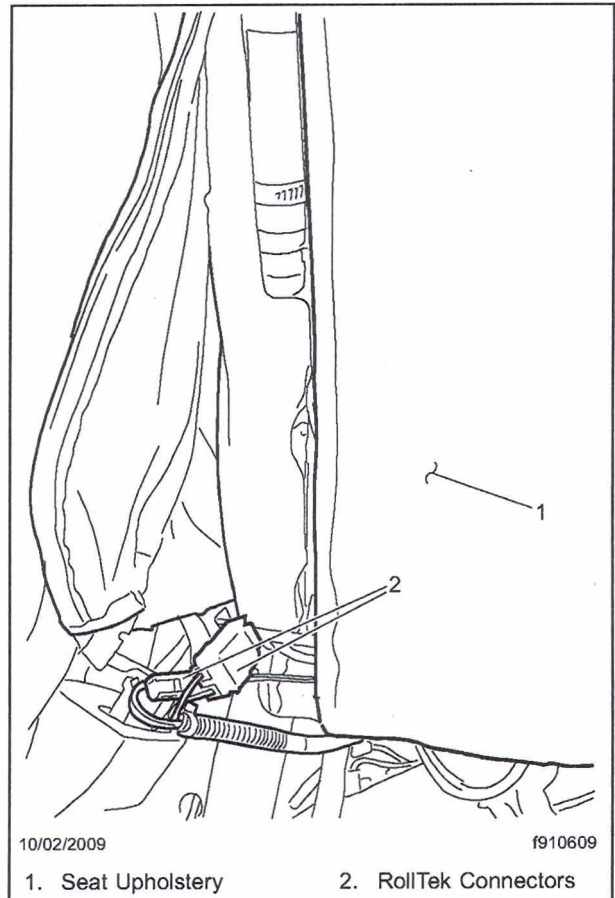

Fig. 2, RollTek Connectors Located Behind Seat Upholstery
5. Check the wiring on the back of the RollTek module, including the connectors located behind the upholstery on the back of the seat. See **Fig. 2**. Make sure that all wires are connected securely.